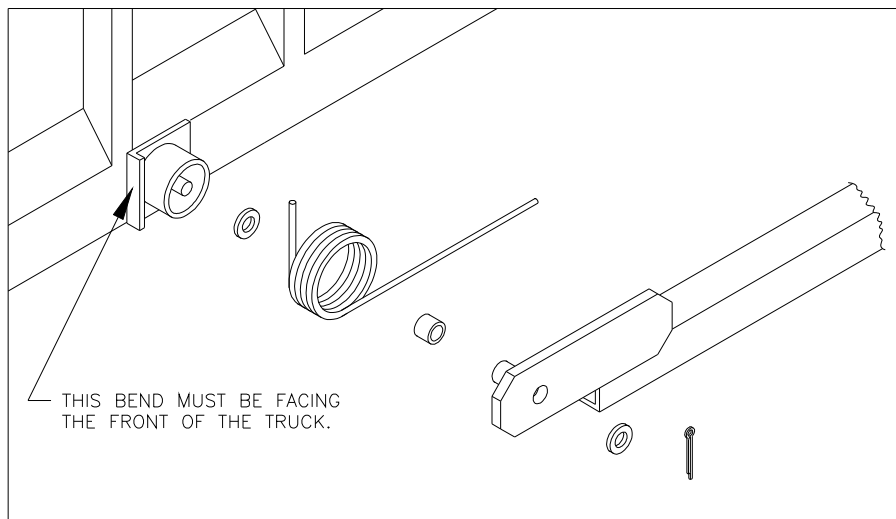

FIGURE 3
- 2) Weld the pivot mounts into place at the pivot point determined in step 1. **Note: The pivot mounts are directional.** (Figure 3 shows the drivers side pivot assembly. Ensure the bend on the pivot mount is towards the front of the truck.)